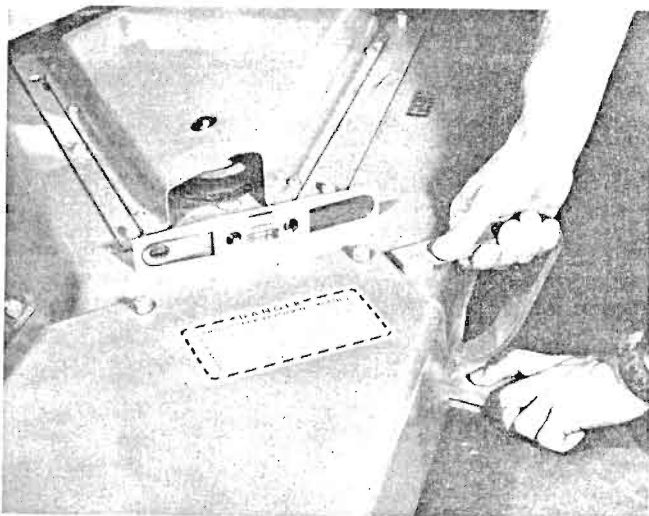

fig 7
5. Using a hand level on the flat portion of the mower deck, (from front to back) block the front (only) of the mower deck up until a level position is obtained. See fig 7.